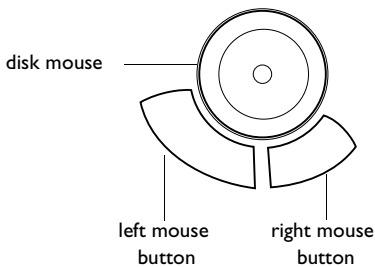

FIGURE 20
- 2 Press the right disk mouse button (Figure 20 on page 25) to display the color selector. Use the disk mouse to position the cursor on the desired color, then press the left mouse button. Press the right button again to close the color selector.